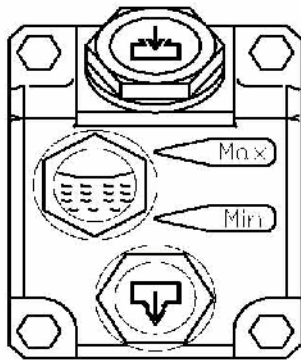

Figure 1
- * When checking the oil level use the sight gauge shown in **figure 1 below**. The level should be between the arrows indicating Minimum and Maximum. If the level is below the minimum arrow add oil until the maximum arrow is reached.